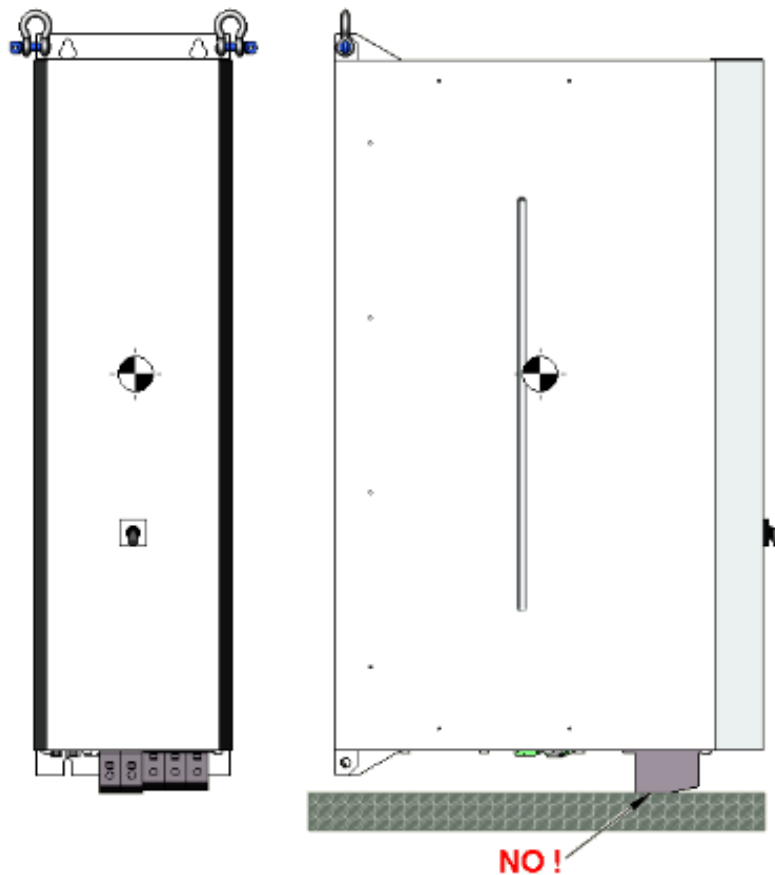

Figure 16: HPQ-module's centre of gravity
- The device **MUST NOT** stand on its own as shown in Figure 16 – this may damage the bottom connectors